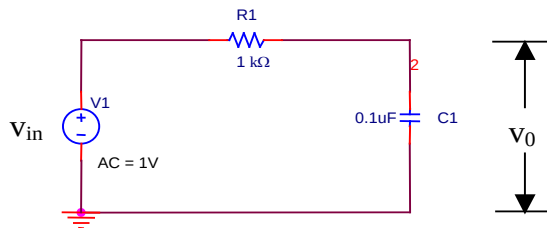
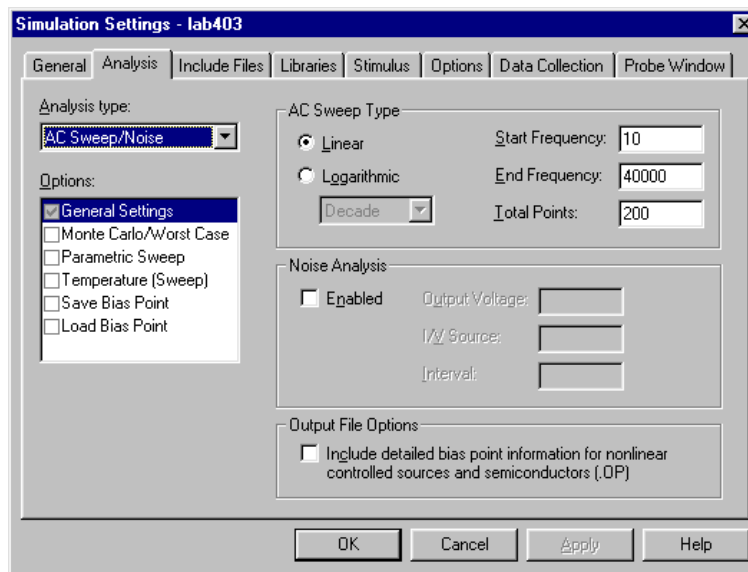

Figure 1a. RC Circuit
Figure 1b. PSpice "simulation profile" for frequency sweeping.
General Guidelines: Draw schematics for the circuits indicated in Figures 1a and 2. Use source VSRC, AC = 1. Since $v_{in} = 1$, v_o itself will give the desired response. Some of the PSpice parameters are shown on the diagram. **Setup:** AC Sweep, Linear and specify the frequency range as shown in Figure 1b. Refer to the PSpice Supplement.
- Let the circuit of Figure 1a be excited by a sinusoidal source whose frequency varies from 10Hz to 40 kHz. Use PSpice to obtain a plot of $|v_o/v_{in}|$ versus frequency. **In Probe, set the x axis setting of the plot to log scale.**